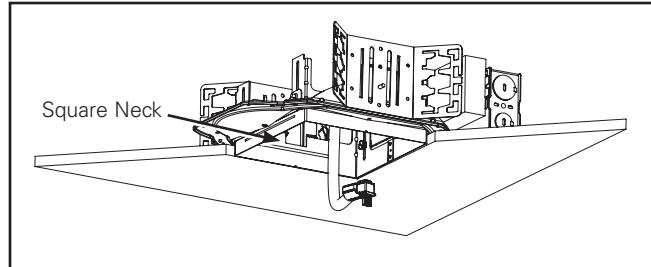

Figure 2
1. Place end of flexible conduit through frame opening in ceiling exposing upper portion of quick disconnect (Figure 2.).